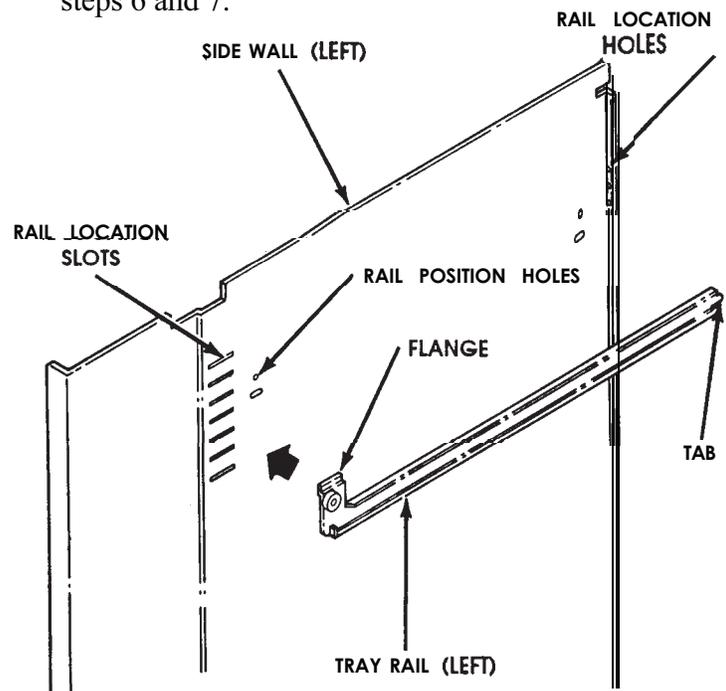

Figure 14
7. Pull each rail forward to disengage its rear tab from the hole in the rear wall. See Figure 14.